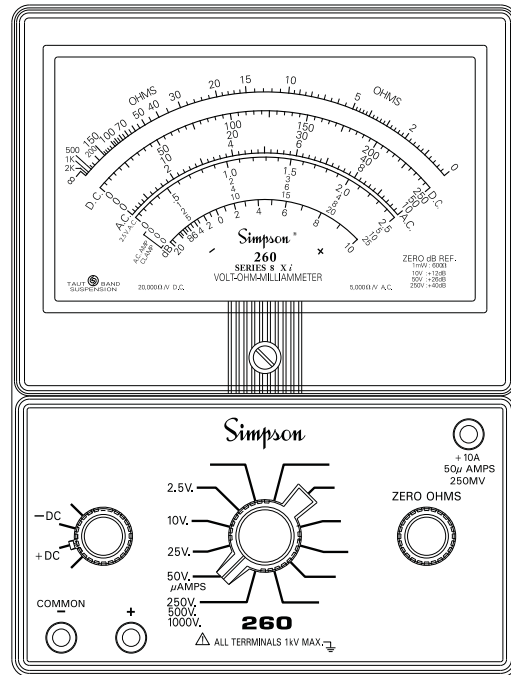

Figure 4-1. Jacks and Switch Positions for Measuring DC Voltages, 0-250V Ranges
- a. Set the function switch at +DC (Figure 4-1).
- Set the function switch at +DC (Figure 4-1).